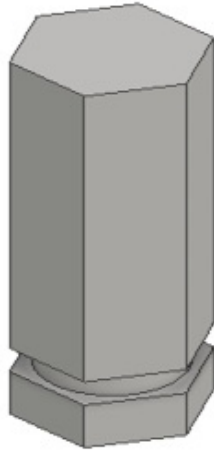

Figure 17-38 *The iFeature applied to the model*
18. Choose the **Finish** button; the iFeature is applied to the model, refer to Figure 17-38. You will notice that the **iFeature** node is created in the **Browser Bar**.